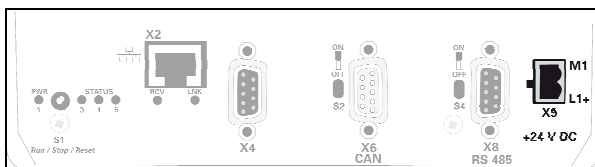

Fig. 14: Power supply
1. **Connecting the power supply:** Connect the power line using the supplied connector with the X9 interface on the rear of the device (see Fig. 14/10).